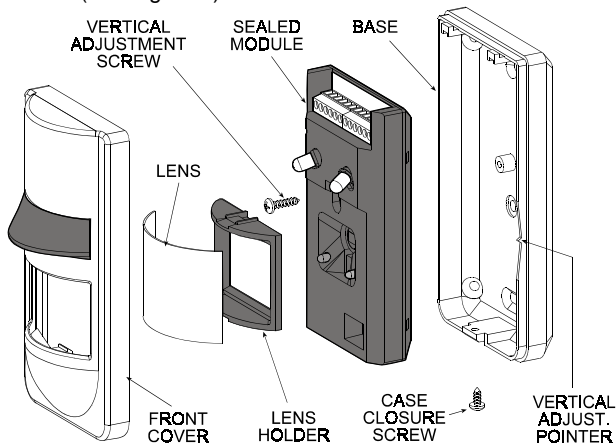

Figure 2. Exploded View of the HUNTER
The electronic circuitry of both models is enclosed in a sealed module, attached to the base with a single screw (see Figure 2).
- Remove the screw located at the bottom and then take the front cover off (see Figure 2).